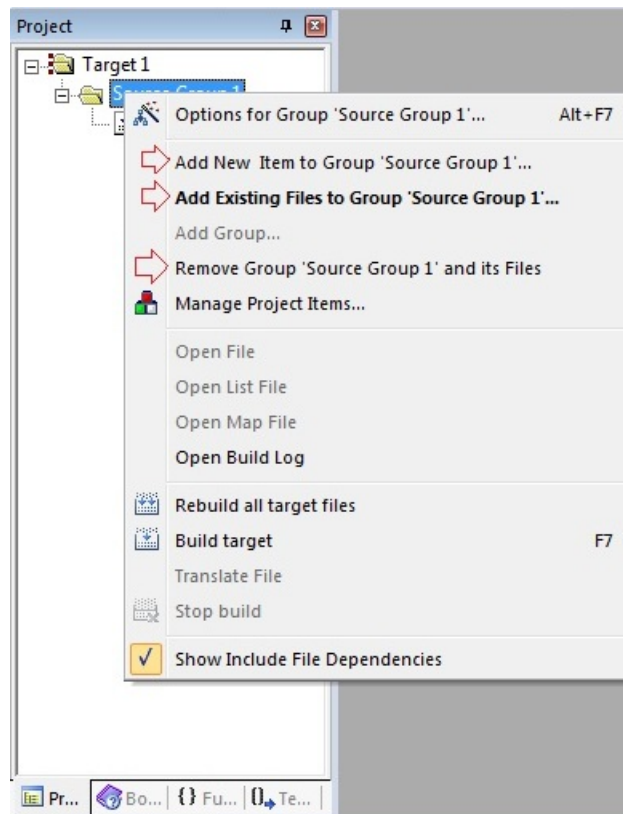

Figure 1.13: Add new file to the project
6. Right click on *Source Group 1* under *Target 1*, click on **Add New Item to Group 'Source Group 1'...** and elect the type of file you want to add (.s for assembly and .c for C file), write its name in given space and click *OK*. (See Figure 1.13 and 1.14)